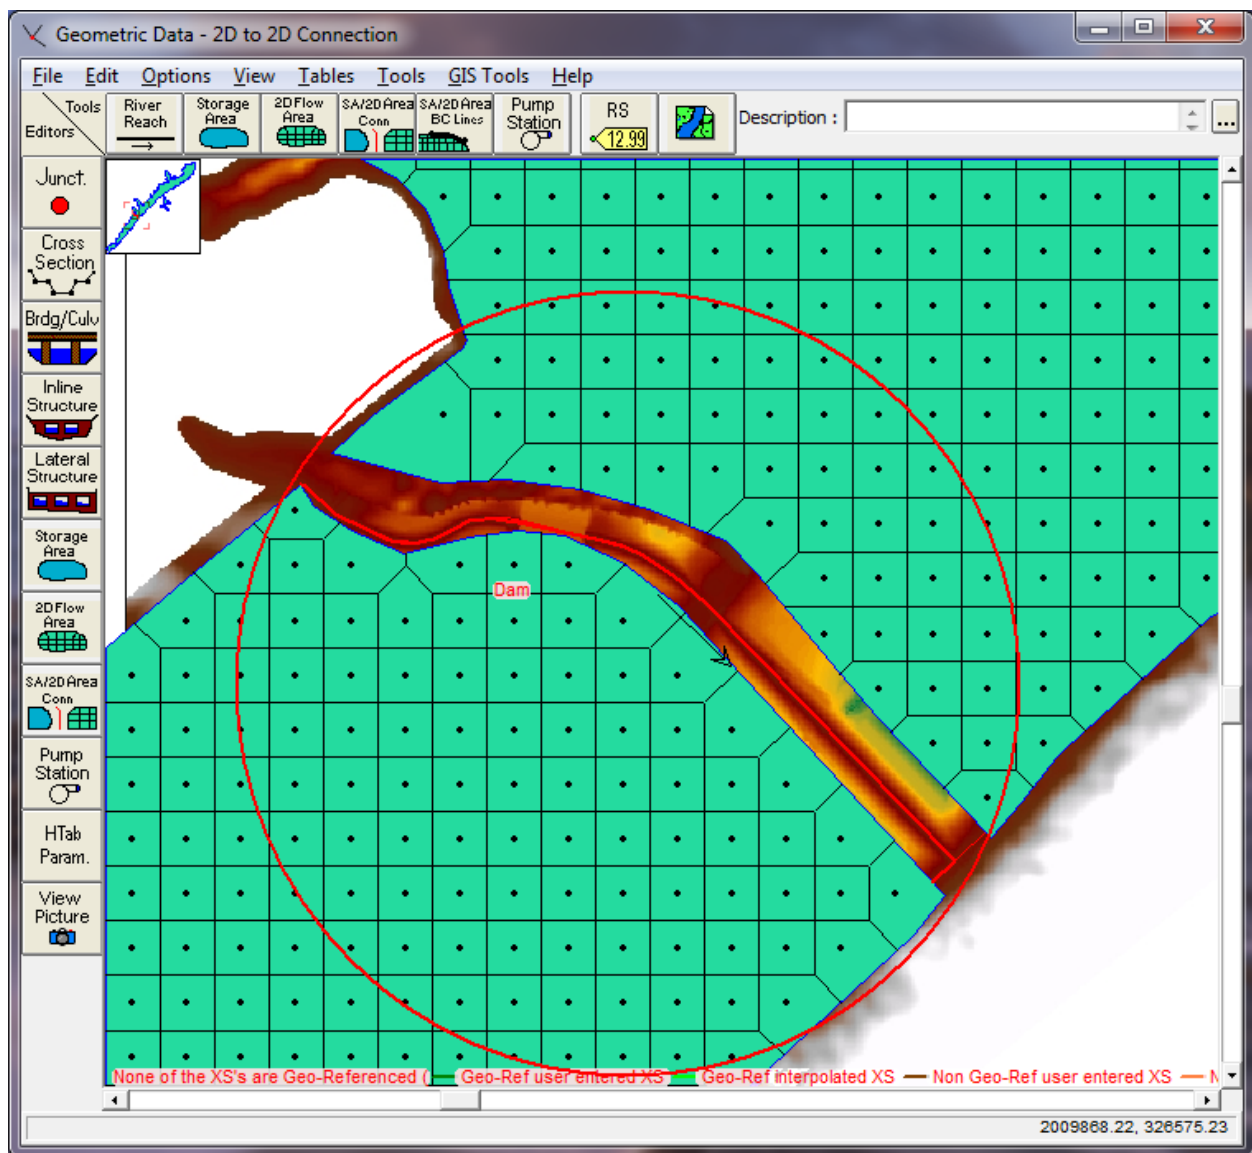

Figure 42. Example of connecting one 2D Flow Area to another with a Hydraulic Structure.
2D Flow Areas can be directly connected to other 2D Flow Areas by using a hydraulic structure called a Storage Area/ 2D Flow Area Hydraulic Connector (“SA/2D Area Conn”). See the example below in Figure 42.
In the example shown in Figure 42, there is a 2D Flow Area upstream of another 2D Flow Area, so the positive flow direction is from the upstream 2D Flow Area to the downstream 2D Flow Area. When defining the hydraulic structure that connects the two areas, the upstream 2D Flow Area will be considered the Headwater side, and the downstream 2D Flow Area will be considered the Tailwater side. In the example shown in Figure 42, a 2D Flow Area is being used to represent a reservoir pool. The hydraulic connection between the two 2D Flow Areas is a dam in this example. The downstream 2D Flow Area is being used to model the hydraulics of the flow downstream of the dam.
- Select the Drawing tool at the top of the Geometric editor labeled "**SA/2D Area Conn**". Then draw a line directly down the center of the hydraulic structure that will be used to connect the two flow areas. The interface will ask you for a label to define the hydraulic structure. See the red line shown in Figure 42.